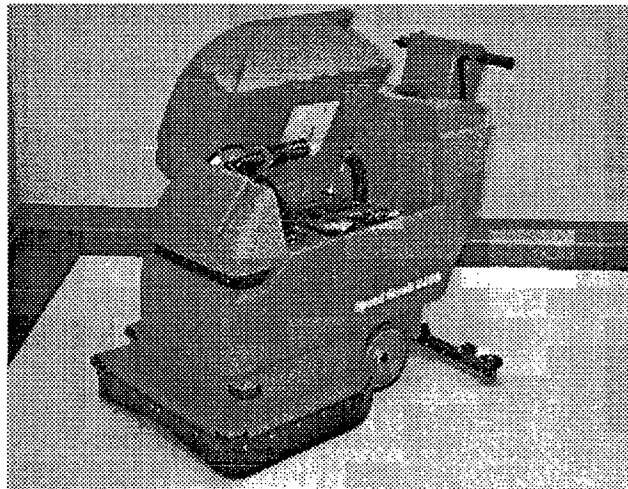

FIG. 2
2. Carefully hinge open recovery tank sideways to access battery compartment. Remove loose battery cable and PVC battery spacer from compartment. (Figure 2)